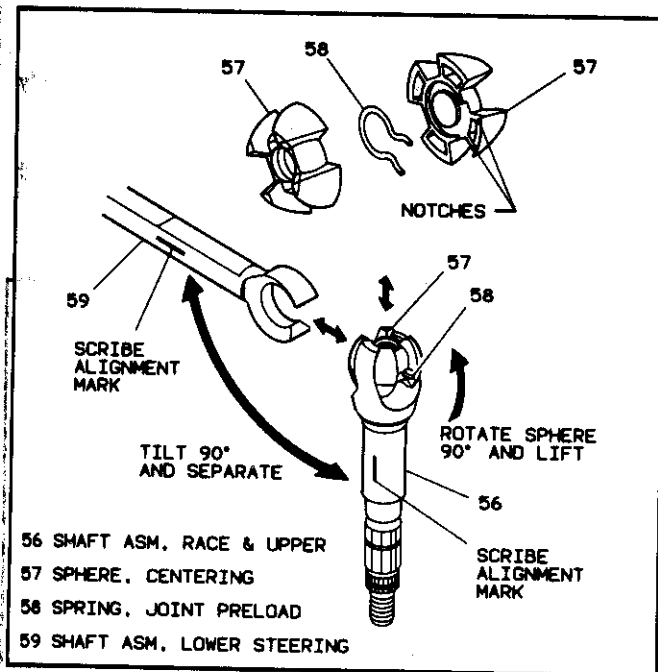

Figure 23 - Removing Steering Shaft Components
- Mark upper shaft assembly (56) and lower steering shaft assembly (59) to ensure proper assembly. Failure to assemble properly will cause steering wheel to be turned 180 degrees. (See figures 23 and 24.)
- Marks made on upper shaft assembly (56) and lower steering shaft assembly (59) must line up after assembled. Failure to assemble properly will cause steering wheel to be turned 180 degrees. (See figures 23 and 24.)